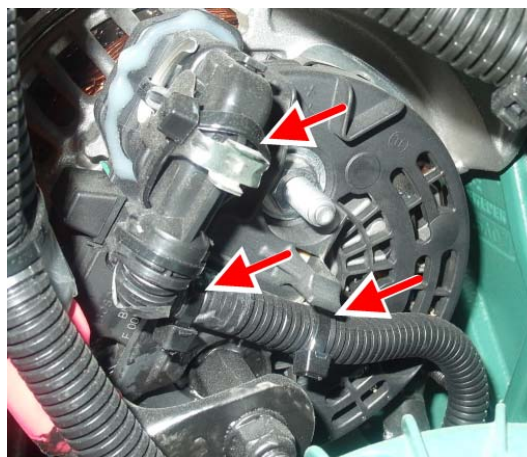

FIGURE 21
28. On the upper alternator, plug alternator harness onto alternator connector and secure using nylon cable ties P/N 504637 positioned as shown by red arrows on **FIGURE 21**.